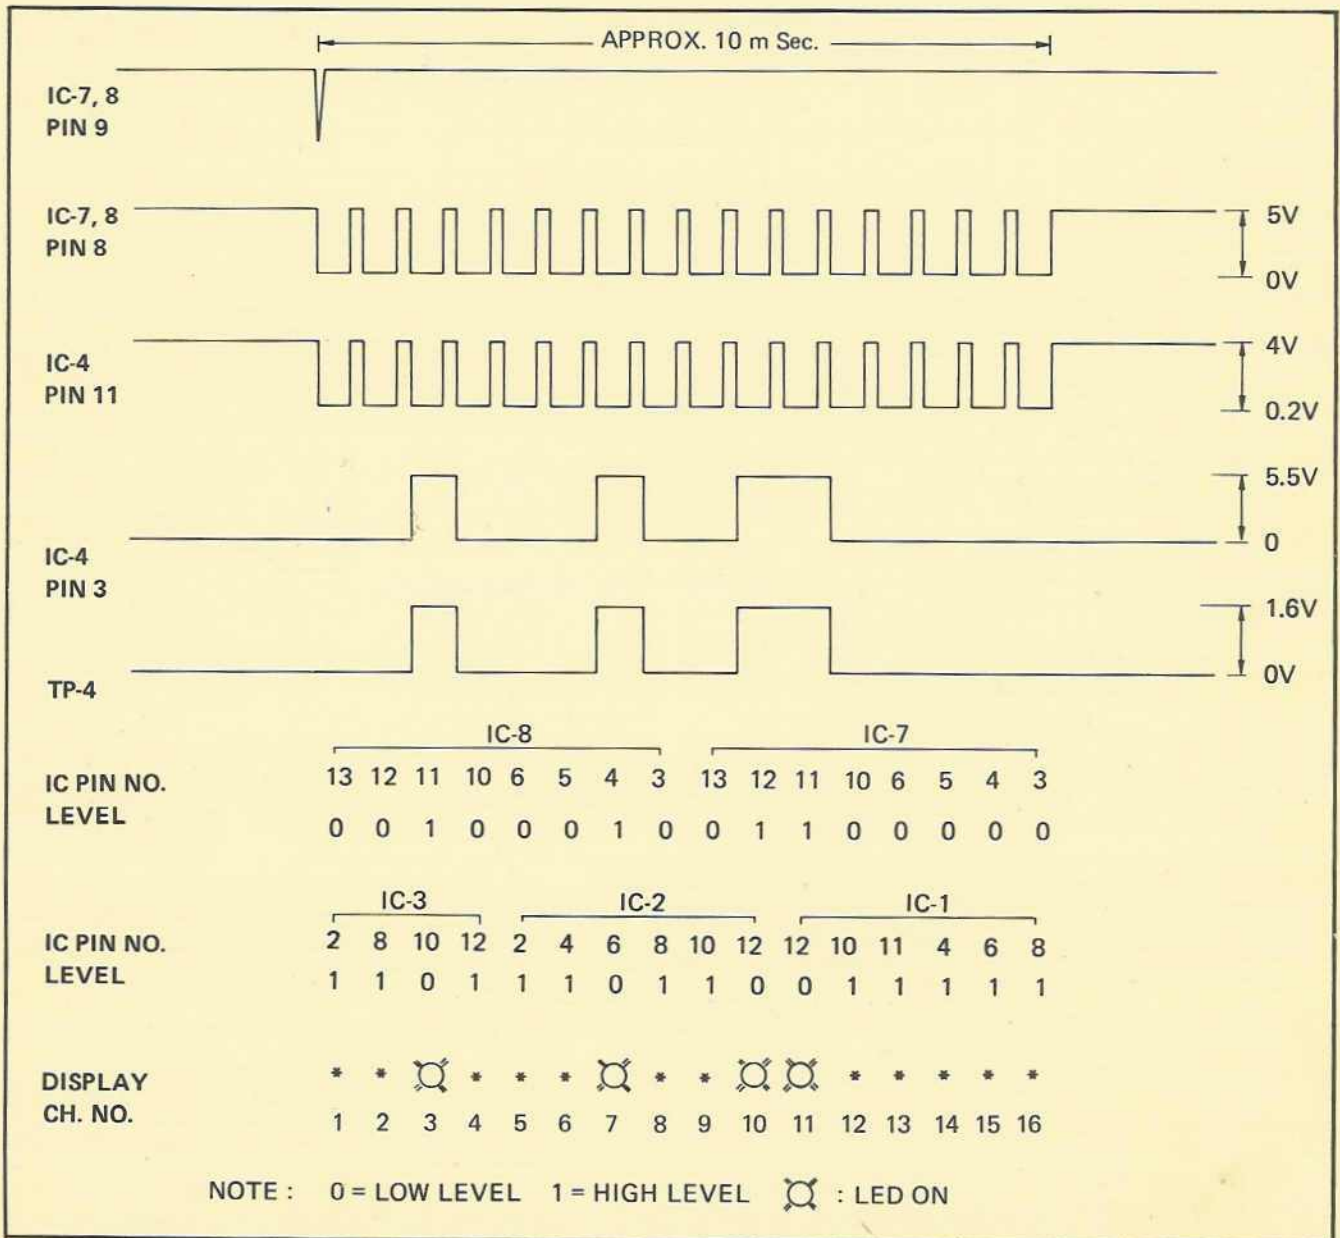

FIGURE 15.
- After setting the Digit switches, press the ENTER button. The code is then memorized and displayed by the channel/program code indicators instantly. See Figure 15 for the timing diagram. The displays shown in the timing diagram can be seen whenever the ENTER button is pressed.